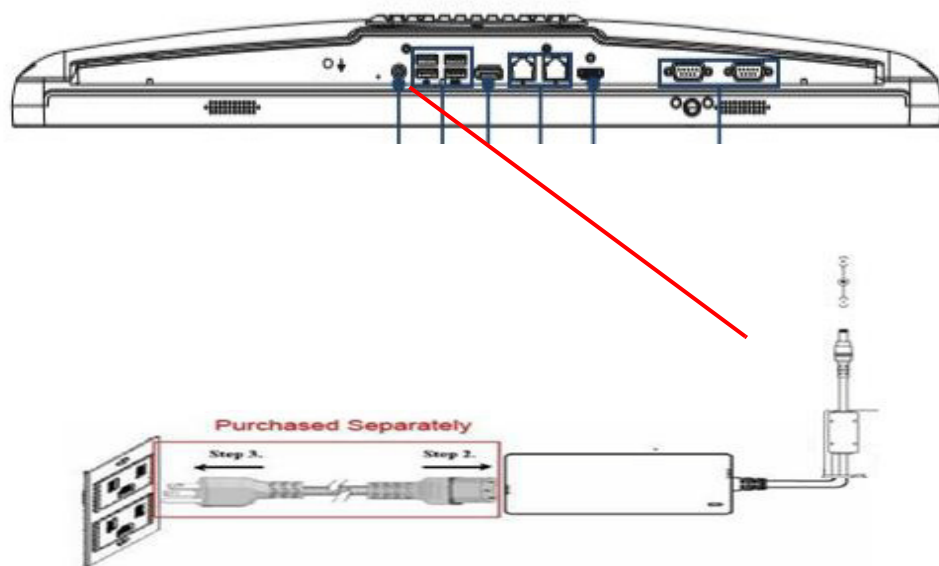

Figure 2.4 Connecting the power cord
1. Connect the female end of the power adapter to the DC jack of the panel PC (see Figure 2.4)